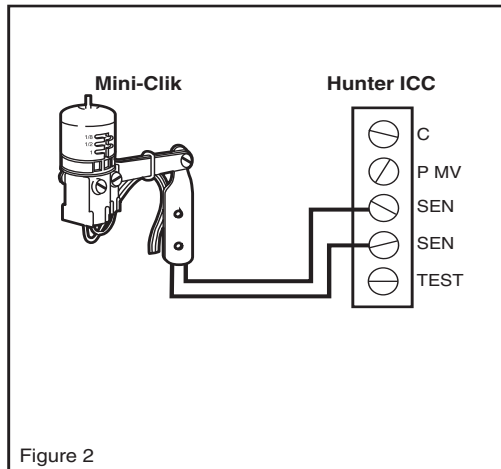

Figure 2
3. Connect one wire to the terminal labeled “SEN” and the other wire to the other “SEN” terminal (See Figure 2).